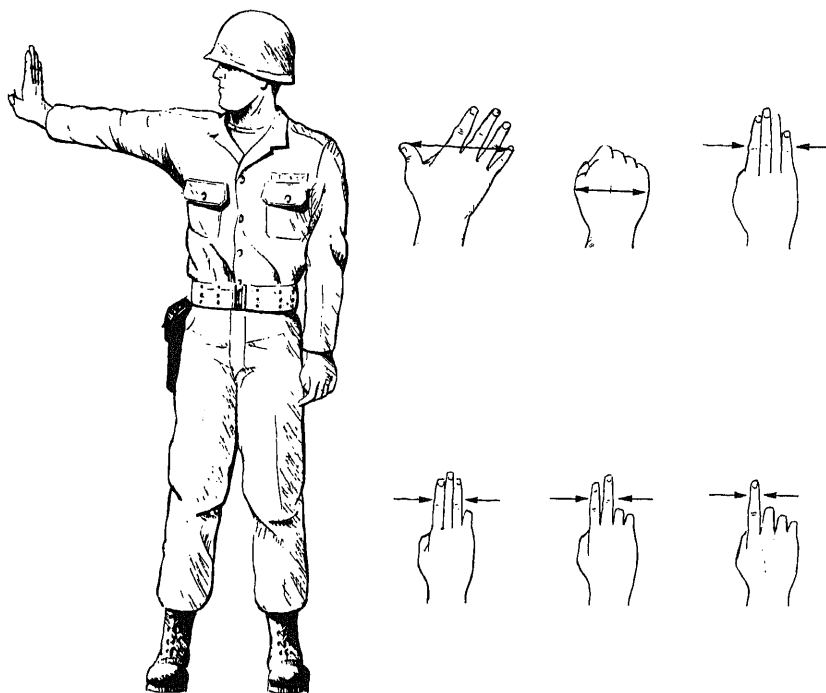

Figure 4-70.—Measurement of angles by hand and fingers.
1. Extend your arm full length with the palm up. Point the appropriate number of fingers beginning with the index finger, vertically to the reference point. (See fig. 4-70.)